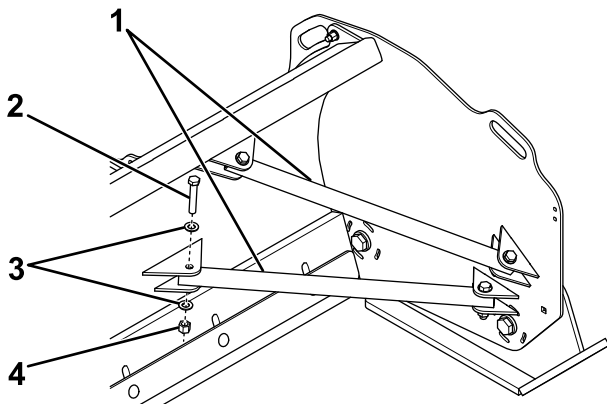

Figure 4
3. On the left side of the plow, place a brace tube between the lower tabs on the plow blade and wing, and loosely secure it with 2 hex-head bolts (5/8 inch), 4 washers (5/8 inch), and 2 locknuts (5/8 inch) as shown in Figure 4.
secure it with 2 hex-head bolts (5/8 inch), 4 washers (5/8 inch), and 2 locknuts (5/8 inch) as shown in Figure 4.